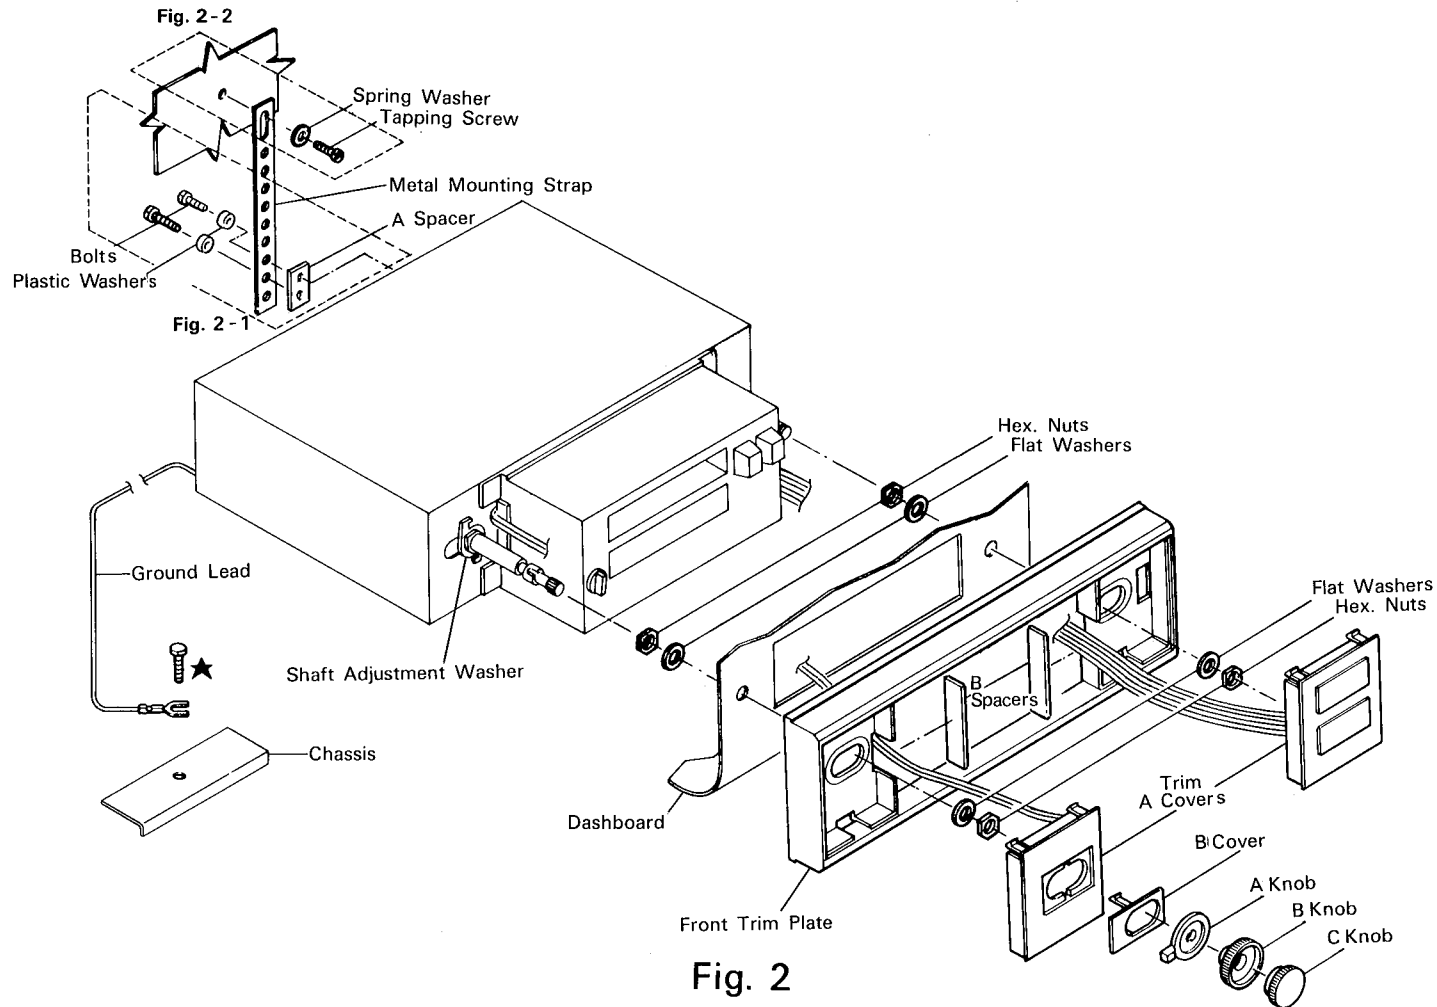

Fig. 2
Your CH140 comes with a complete kit that includes a mounting strap, bolts, washers, front trim plate and control knobs. Fig. 2 shows the proper step procedure. Look at the diagram and make sure that you have all the necessary parts. Then, begin this procedure.
3. Remove the paper on the back of spacer B, and stick it on the front trim plate as shown in Fig. 2.